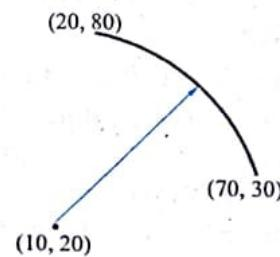

FIG. 14.11
**Example :** Draw an Arc of circle passing through two points having coordinates (70, 30) and (10, 20) and center point at coordinate (10, 20). Refer figure 14.11.